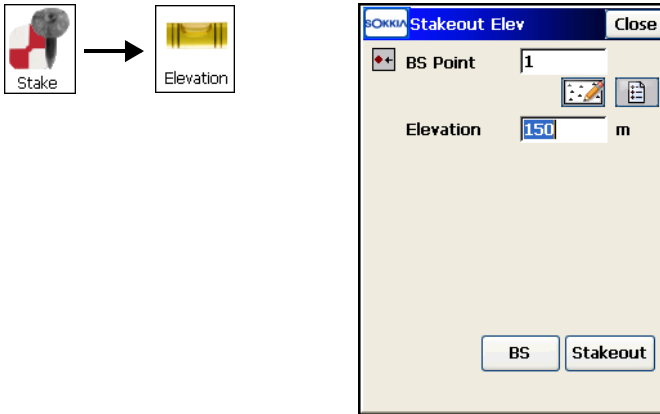

Figure 9-56. DL Stakeout Elevation
1. To stake out elevations, tap **Stake ▶ Elevation**. The *Stakeout Elev* screen displays (Figure 9-56 on page 9-43).